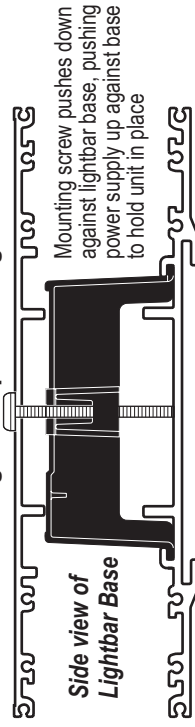

Fig. 7 Endcap: Lighthouse and Gasket
4. Make sure the endcap gasket is in place (Fig. 7), plug in the alley lights and remount the endcap. Repeat for other side then reconnect to power and test the lightbar.